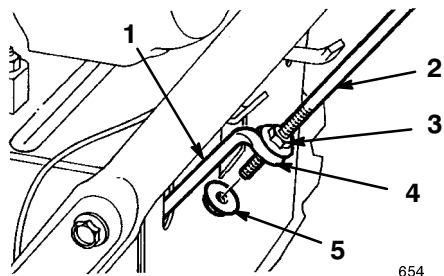

Figure 3
3. Thread a flange nut (not the locking flange nut) with the flange down onto the traction control rod attached to the left handle (Fig. 3).
4. Position the left handle against the side of the snowthrower and insert the end of the traction rod through the loop in the lower traction rod (Fig. 3).
1. Thread the locking flange nut (flange side up) onto the bottom of the traction control rod, below the loop in the lower traction rod (Fig. 3).